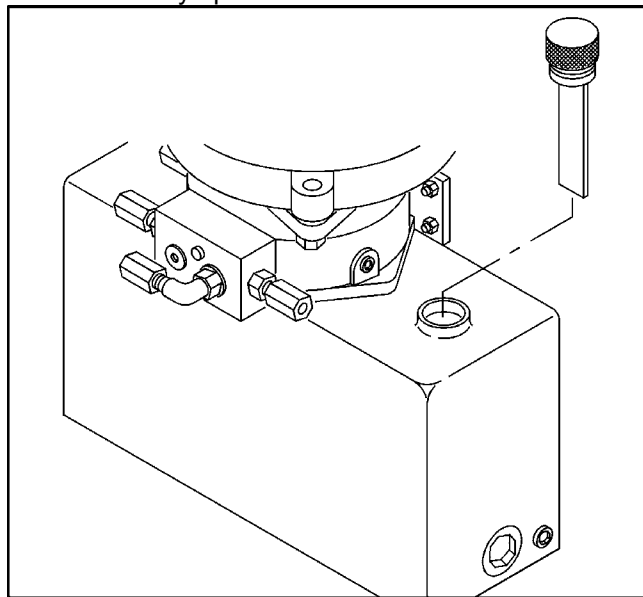

Figure 10
5. Check the fluid level in the reservoir using the dipstick indicator on the reservoir cap. Ensure that a sufficient amount of hydraulic fluid is in the reservoir (fluid level above mark on dipstick – see Figure 10).
2. Open the side door and remove the reservoir cap. Check the level of hydraulic fluid in the reservoir and add hydraulic fluid of proper viscosity, if necessary. Replace the reservoir cap and close the side panel door (see Figure 10).